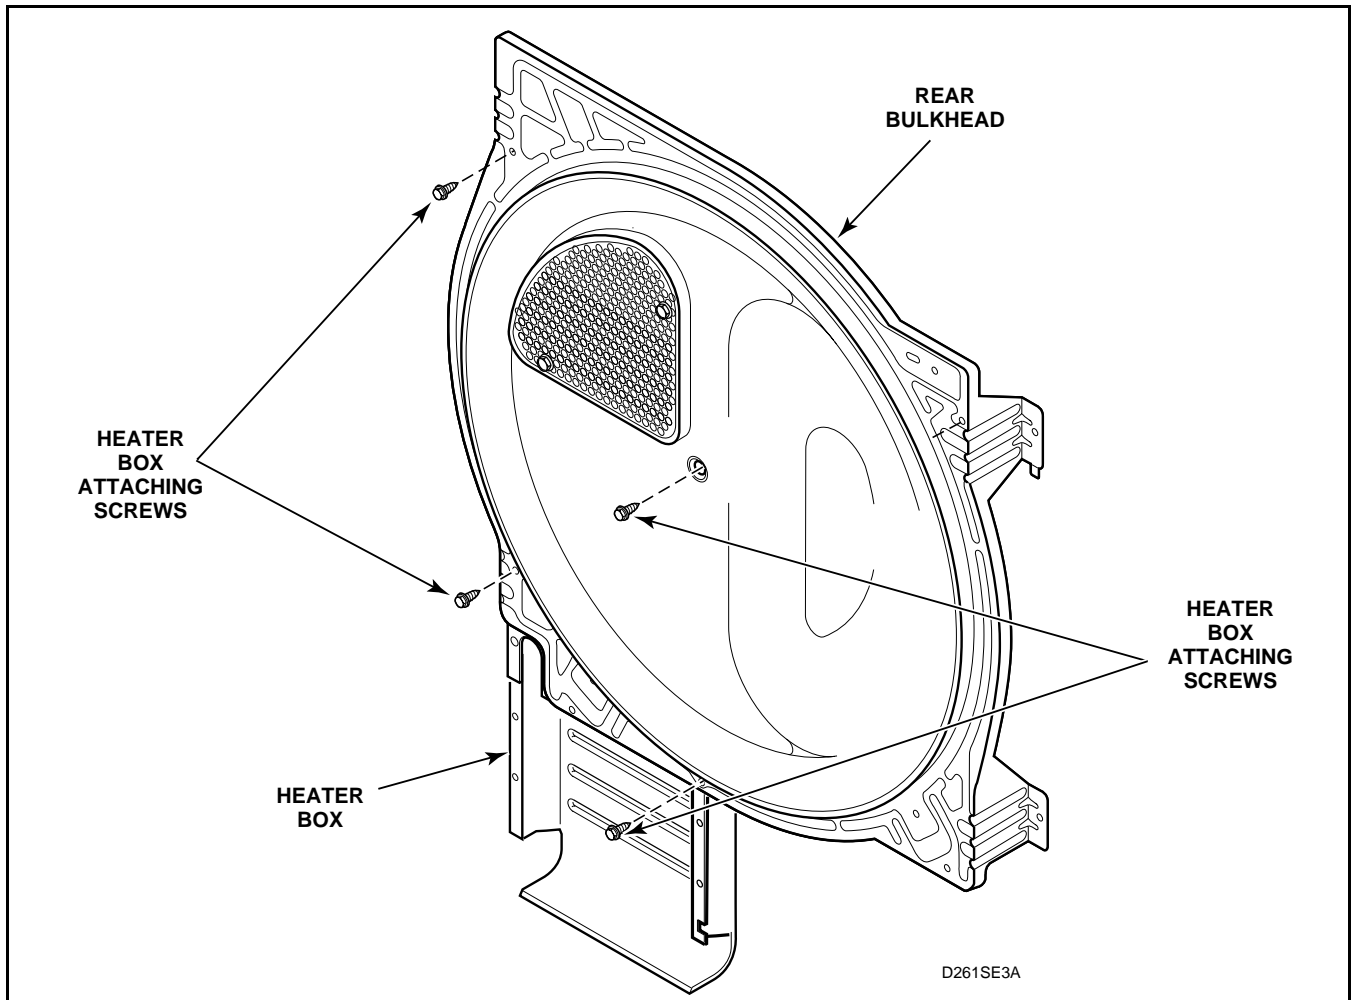

Figure 39
- l. Remove heater box from rear bulkhead. See *Figure 39*.